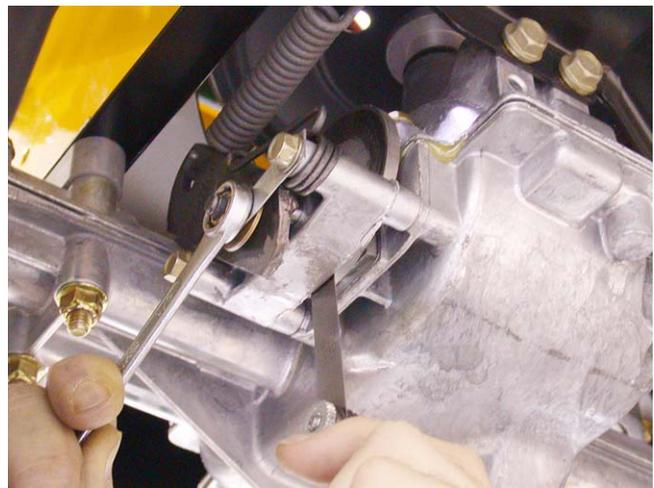

Figure 19.11
- 19.11. A 1/2" wrench will turn the adjustment nut. See Figure 19.11.